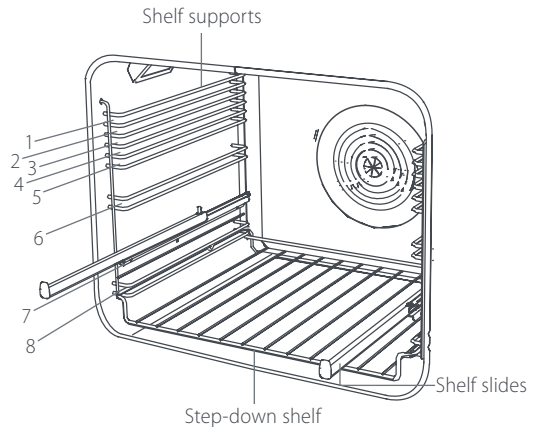

Fig. 7 Shelf positions
- The oven shelves and the grill/roast pan have a 'stop notch' so that you do not accidentally pull them right out of the oven. Make sure you put the stop notch towards the back of the oven, as shown in Fig.7.